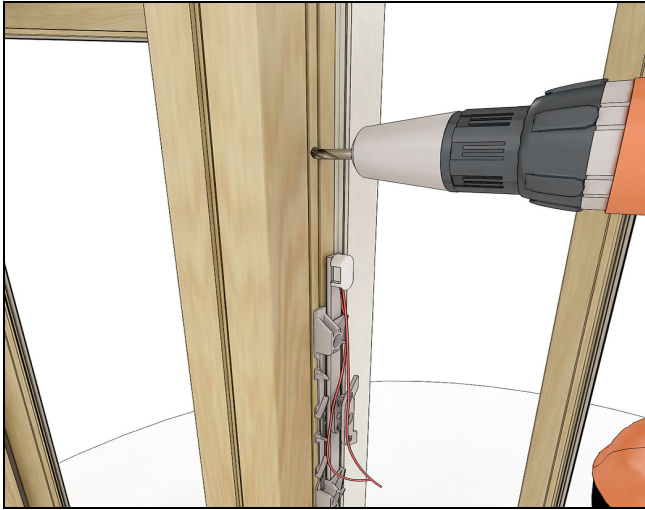

Figure 8
3. Optional through jamb setup: Operate the lock so the tie bar is fully extended. Then use a 1/4" drill bit to bore a hole through the top area of the jamb (above the extended tie bar) into the adjoining unit's jamb until you have access behind the covers. See Figure 8.